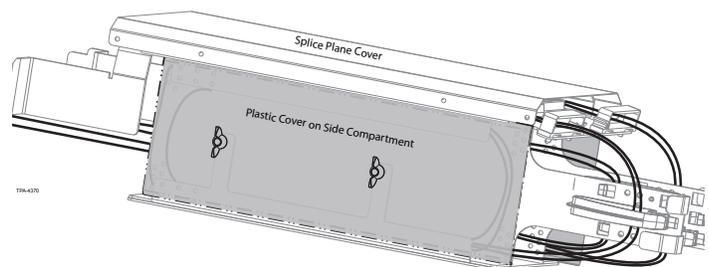

Figure 18
**Step 6:** Secure the plastic cover on the side compartment using the wing nuts as shown in Figure 18.